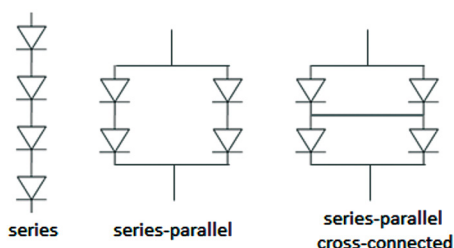

Figure 9: An example of how four LEDs can be connected.
Further, multiple LEDs can be electrically connected in three major configurations as shown in Figure 9.
- Series-parallel cross-connected. Each LED is connected as an array as shown in Figure 9. The forward voltage of individual LED in parallel to other LEDs must closely match, unlike in series-parallel where only the LED string voltage must match instead of individual LED.